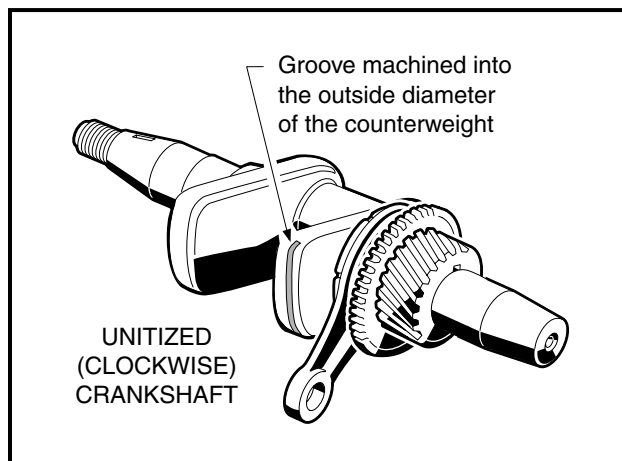

Figure 18-74 Crankshaft Inspection
**NOTE:** The crankshaft for a unitized (clockwise) engine has left-hand threads at the clutch mounting hole, and there is a machined groove in the outside diameter of the counterweight as shown. (Figure 18-74, Page 18-36).